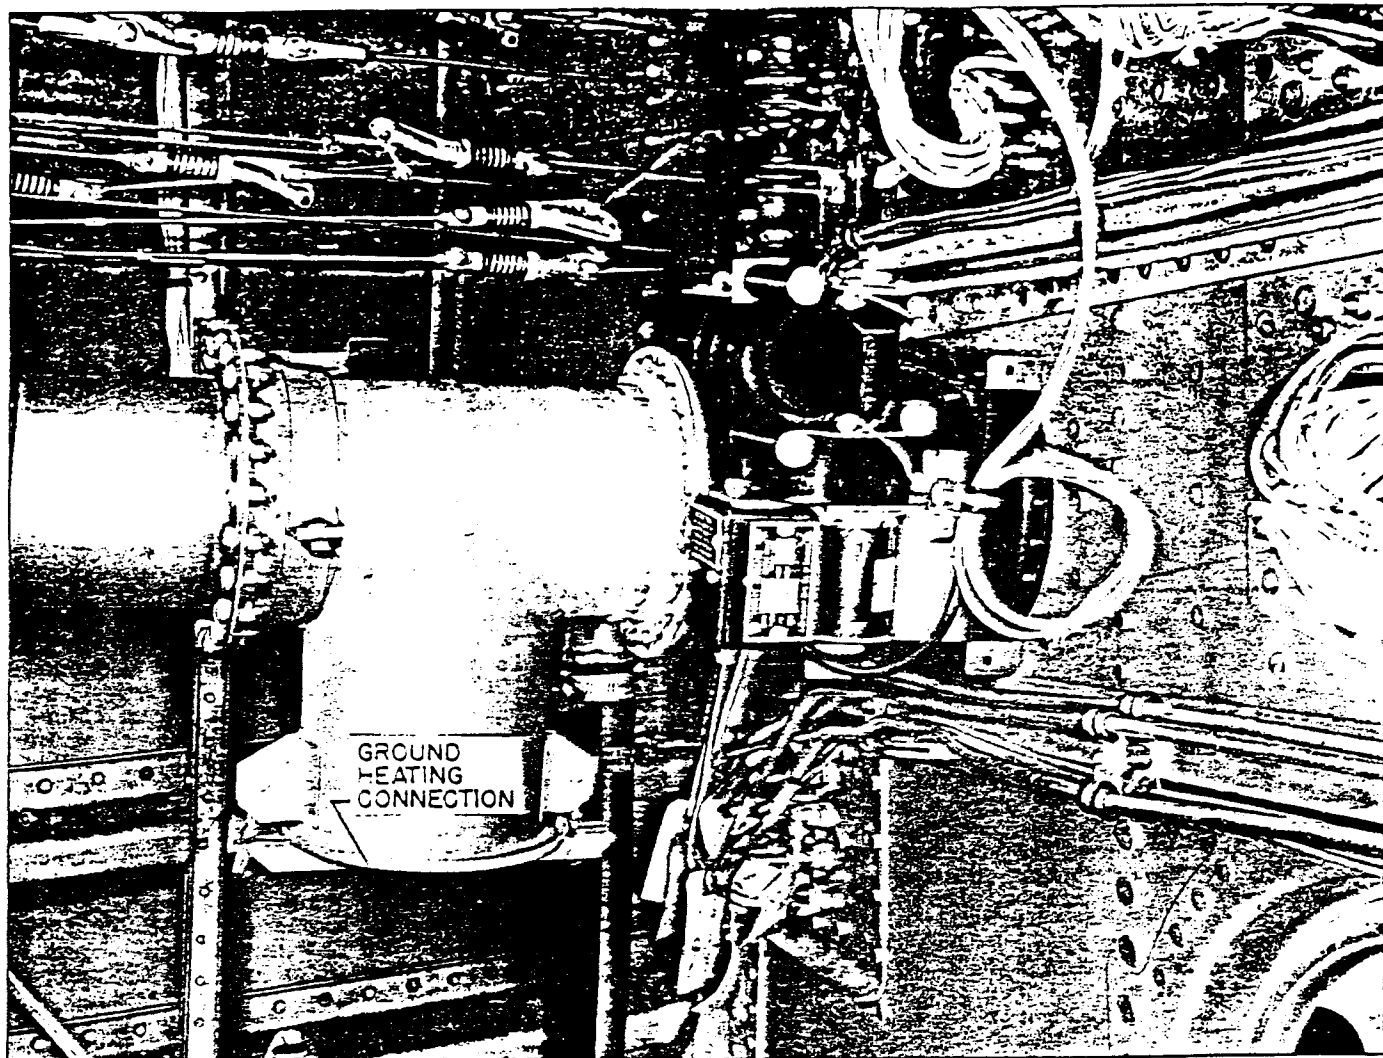

Figure 37. Cabin Air Check Valve and Ground Heat Connection
(6) CABIN AIR CHECK VALVES. (See figure 37.)
(5) GROUND HEAT. (See figure 37.)